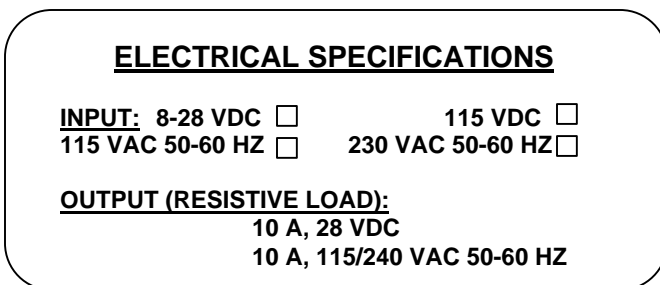

FIG. 1: ELECTRICAL SPECIFICATION PLATE
Make the cutouts as indicated in (Fig. 1). Insert the (4) panel mounting studs, finger tight, into the metal inserts located in the rear of the bezel.
If specified, your Model 109 will have a pipe mounting kit installed. This provides for mounting on a 2" vertical or horizontal pipe. See (Fig. 1) for details.
(Fig. 1)
Before installation carefully check the "Electrical Specifications" plate (See Fig. 1) on each instrument against the receiving paperwork and the intended application for the correct input and output. Make certain that the enclosure (NEMA 4 or NEMA 7) is appropriate for the area in which it is to be installed. Inspect for shipping damage and, if damaged, report it immediately. Verify when the unit is unpacked and in a vertical position that the pointer is on 0.
2. **L.E.D.'S DO NOT COME ON WHEN POWER IS TURNED ON.** Check wiring diagram (Fig. 1) and wiring to make certain that all connections are properly and securely made. Also check to make certain that the proper power input is being provided.